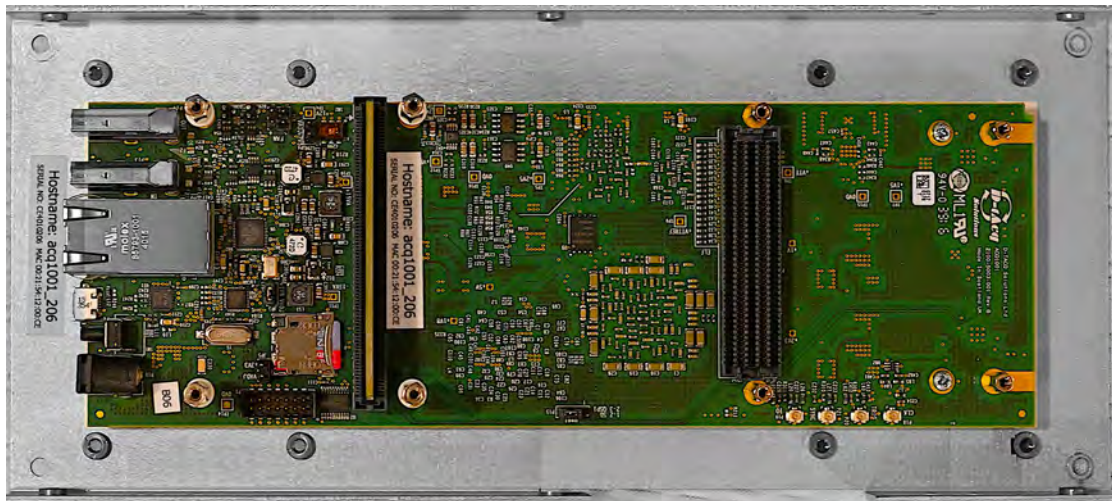

Figure 12. Carrier board with FPGA, after removal of the Triple DDS Radar Controller board (top face; bottom face not accessible).
3. for mode (a), connect a power attenuator such as a Bird 100-SA-FFN-30 to the N-type RF output of the unit (figure 12).
4. for mode (b), connect the cable to the TX antenna, with a minimum attenuation of 5 dB (figure 12).
5. connect a CAT-6e cable from a local network to the RJ45 jack of the unit (figure 12);
6. connect a grounded power cable to the IEC-C13/C14 power inlet (figure 12) and plug into a 120 or 240V outlet (the unit auto-detects the voltage).